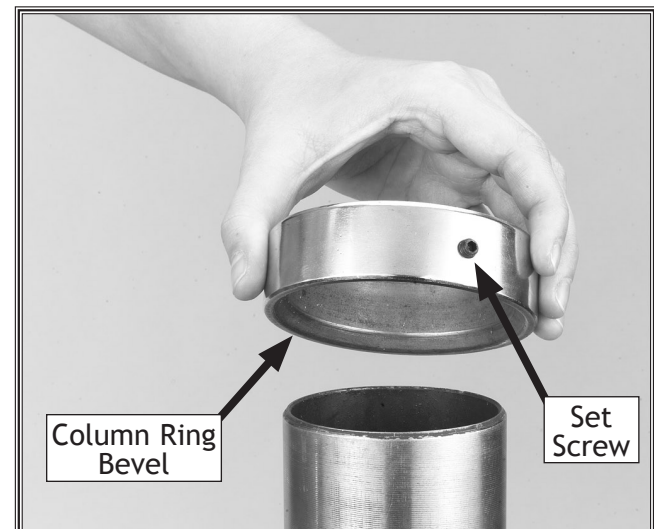

Figure 13. Column ring in the correct position.
9. Slide the column ring onto the column with the inside bevel in the down position until the rack tapered-point seats into the bevel (see **Figure 13**).